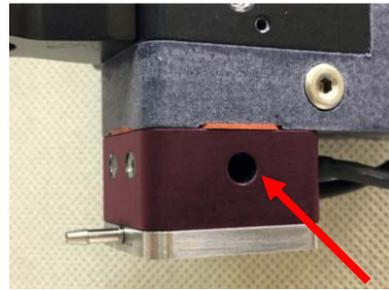

Figure 3-7: Check for Leaks at Weep Hole
- Check to see if fluid leaks out of the weep hole in the heater block shown in Figure 3-7. If fluid is leaking, the diaphragm is either missing or damaged and should be replaced. The heater block will need to be removed and the leaking fluid should be cleaned.